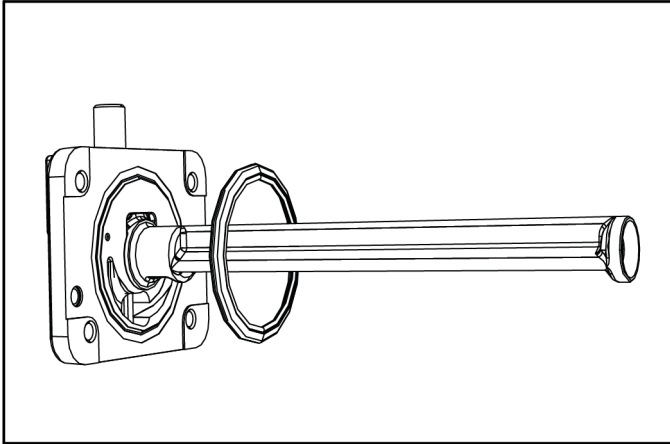

Figure 6-23
13. Install the baffle by raising rounded end while engaging lug into the door pocket. Lower the round end to secure to the door. Place the door gasket into the groove on the back of the freezer door. **Do not** lubricate the gasket. (See Figure 6-23.)